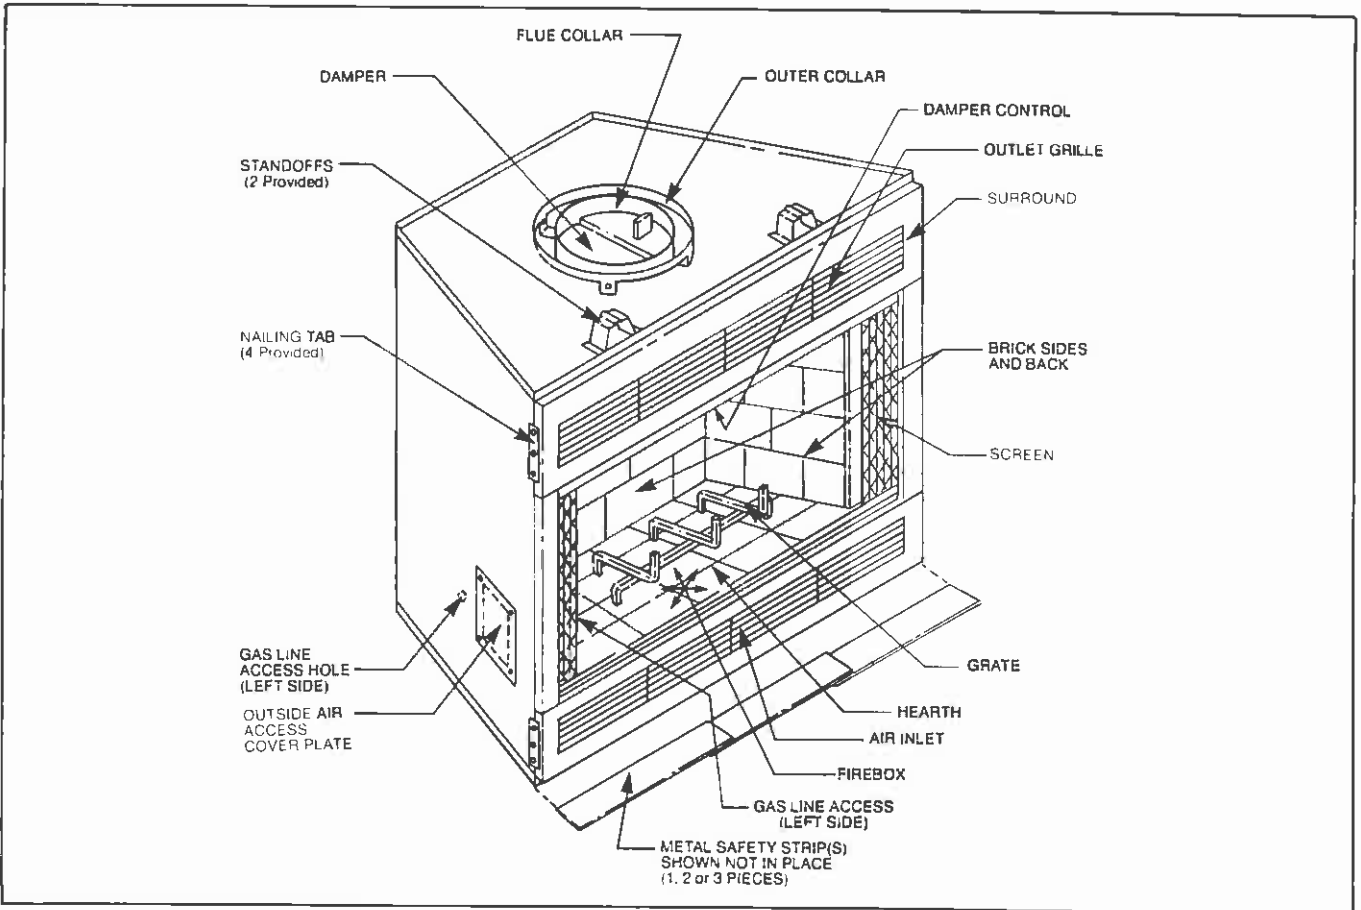

Fig. 2. Parts of the Majestic MBUC Heat-Circulating fireplace.
**The air inlet/outlet grilles** are part of the heat-circulation system. Cool room air enters through the bottom grille and/or lower side inlet grilles and travels through the heat exchanger passageways. The resultant hot air is then returned to the room through the upper outlet grille. (Refer to Figs. 2, 4, 6, 7, 8 and 9.)